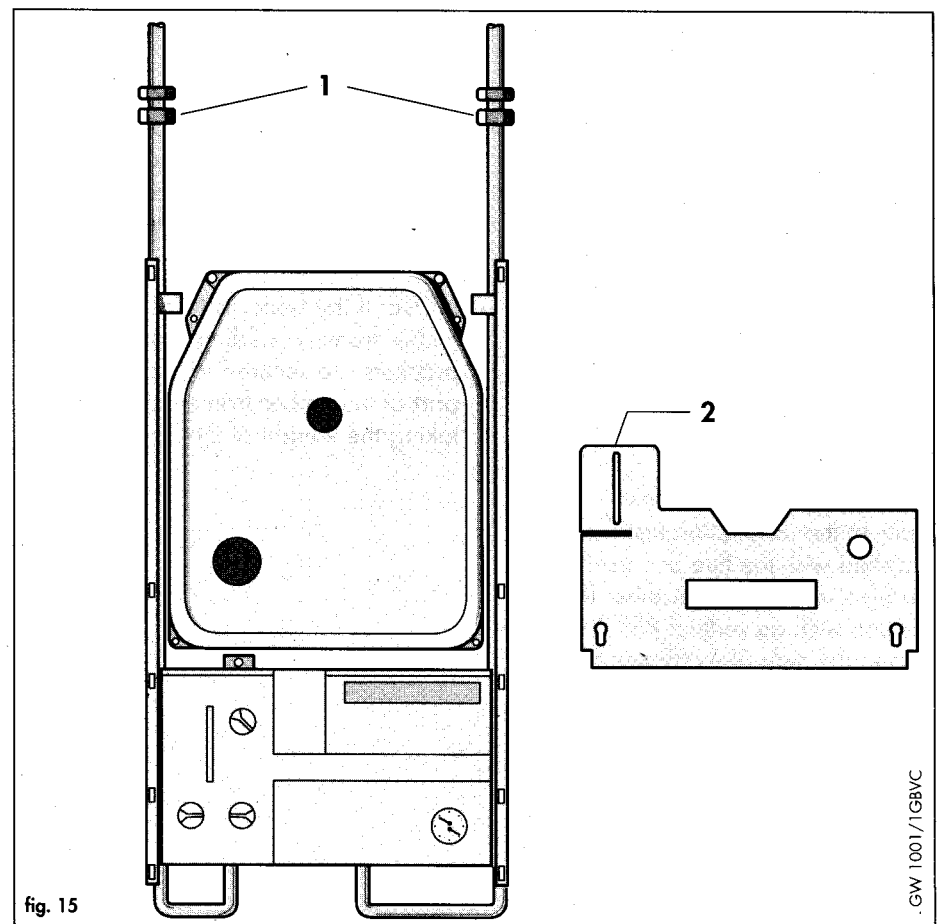

fig. 15
If it is desired to run heating pipework to above the boiler, the purpose provided voids in the left and right sides of the boiler casing may be used (see fig. 15).
**Note:** To allow fitting of the bottom boiler cover, the left hand tab (2, fig. 15) should be folded upwards where pipes are fitted in the left hand void.
Where pipes are installed in these voids, a method of disconnection e.g. a compression connector (1, fig. 15) must be provided to allow easy removal of the boiler from the wall, if required.